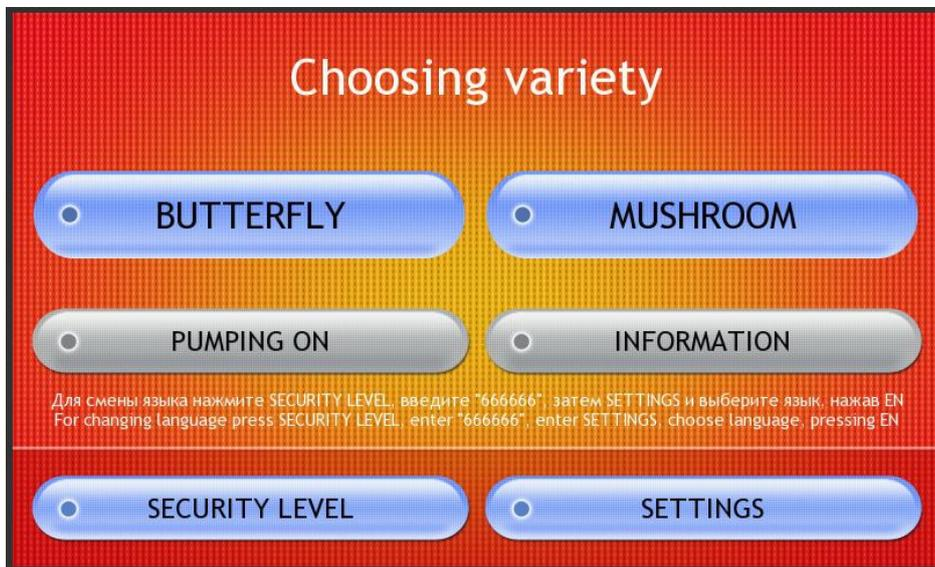
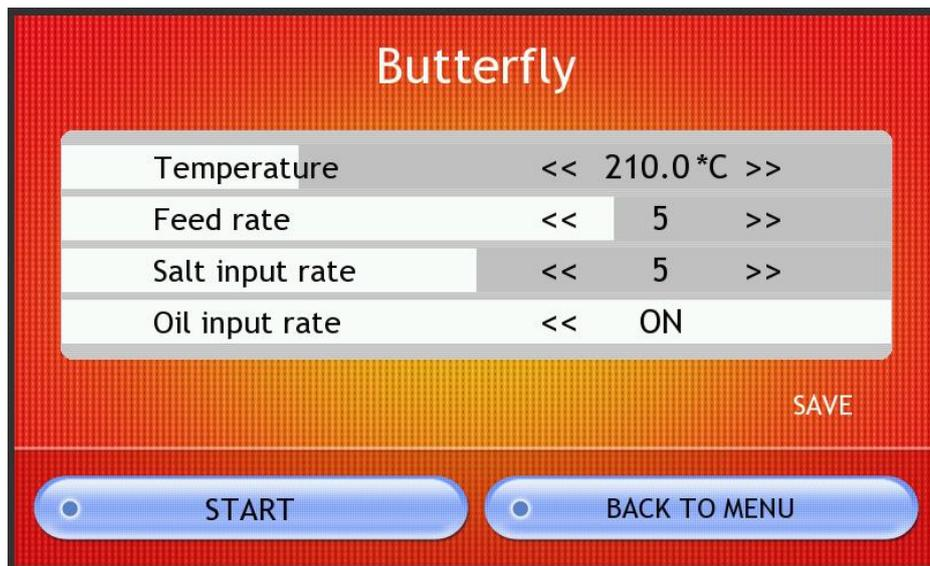

Fig. 5. Main screen
Fig. 6. Recipe screen
4. Having performed the operations on the paragraph 3, you should select on the main screen (fig. 5) the required popcorn type and press <<START>> (fig. 6). The rest will be done automatically; the machine will warm up and the first popcorn fly out from the chamber in 12-15 minutes.